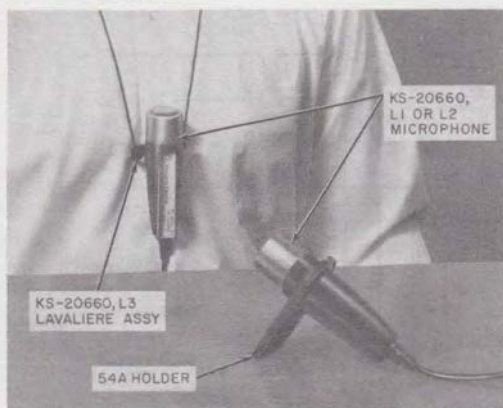

Fig. 5—Remote Microphones Using Lavalier and Holder
4.08 The remote microphones can be hand-held, inserted in a desk stand, or used as a lavalier (Fig. 5). A talking distance of one foot is recommended.